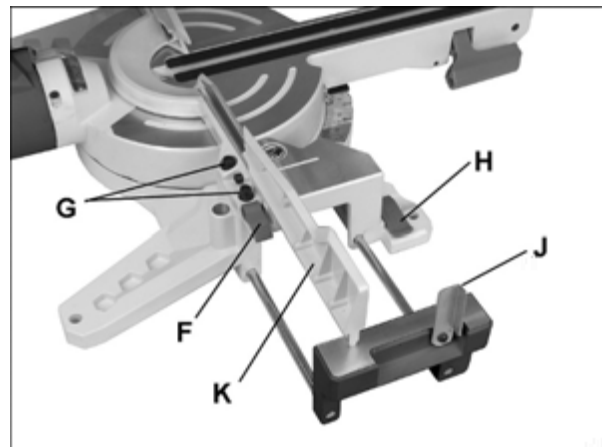

Figure 8-2
Pull up lock handle (H, Figure 8-2) and slide table extension outward, as shown. Push down lock handle to secure position.
1. Raise lock handle (F, Figure 8-2) to unlock fence extension.
2. Slide fence extension (K) outward to accommodate desired bevel angle, or slide it completely off.
3. Push down lock handle (F) to tighten fence extension in position.
5. Adjust fence square to blade and tighten the four fence locking screws (G, Figure 8-2).